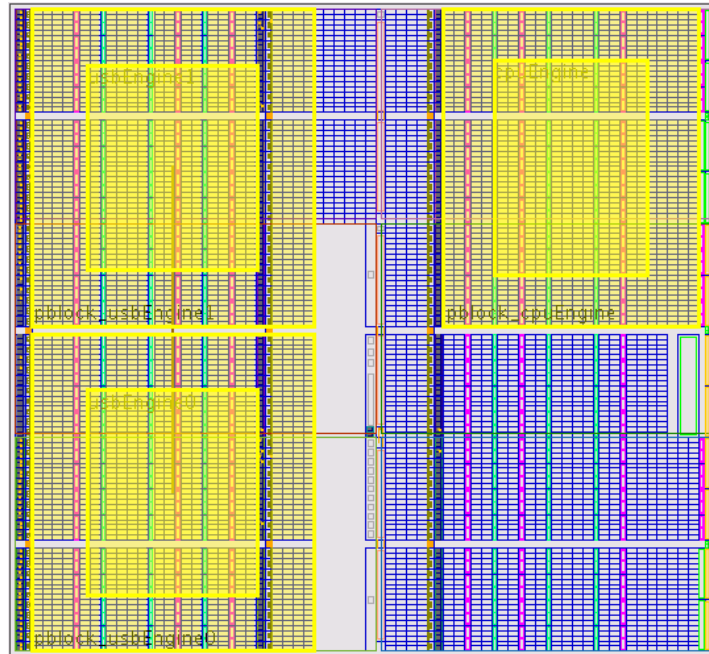

Figure 6: Completed Floorplan for Pblocks **usbEngine0**, **usbEngine1**, and **cpuEngine**
5. Click the top-left corner of the device where the CLBs start (reference Figure 6 for completed view).